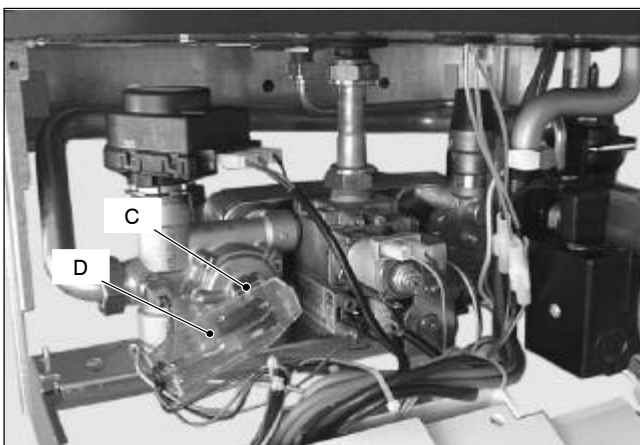

Fig. 49
- 2 Remove the fork C (Fig. 49).
- 2 Remove the fork C that holds the micro-switch housing D (Fig. 49).